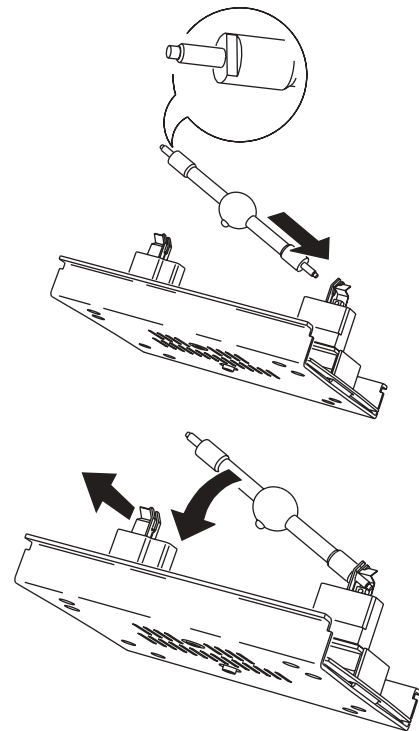

Figure 6: Lamp insertion
The ends of the lamp have specially-developed keys, shown in Figure 6, to ensure proper installation.
- 4 See Figure 6. With the nipple on the bulb facing the back, insert the right end of the new lamp in the socket. Pull up on the left spring and snap the other end into place.